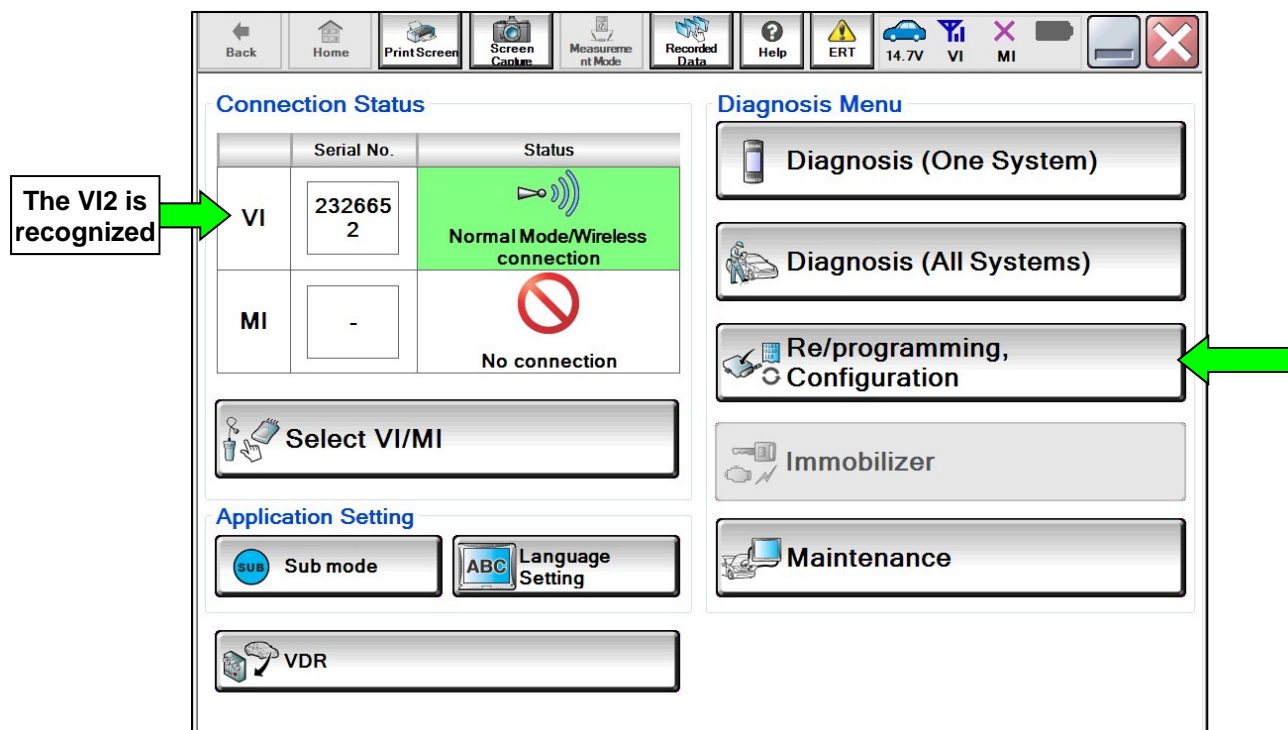

Figure 3
7. Wait for the VI2 to be recognized (Figure 3).